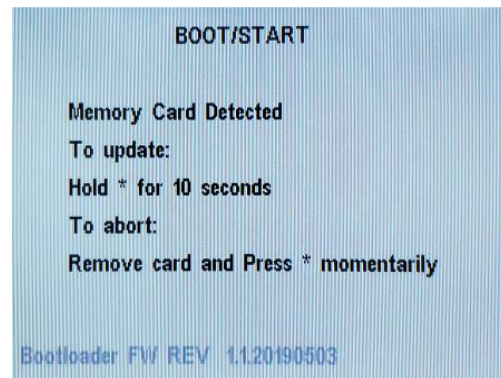

Figure 2. BOOT/START Screen
6. Turn on the power of the BlueWave[®] AX-550. The BOOT/START screen will appear (Figure 2).